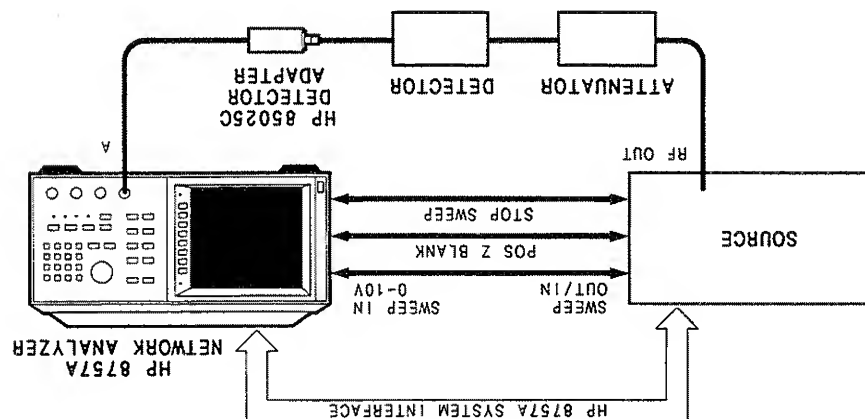

Figure 5. External Detector Measurement Calibration Set Up
1. Connect the equipment as shown in Figure 5. Allow 30 minutes warm up.
- If you are using AC detection, the analyzer displays ENTER POWER (HI). Go to Step 9.